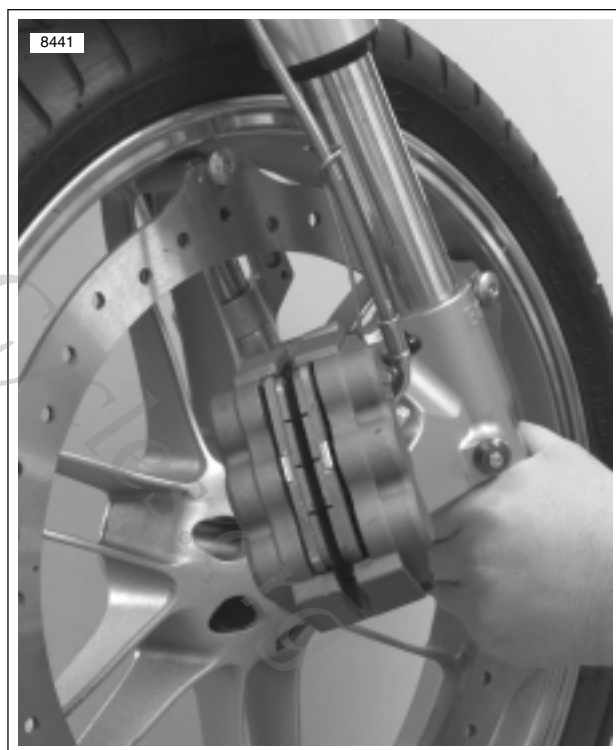

Figure 2-5. Front Wheel Removal
5. See Figure 2-5. Raise the wheel up until the rotor clears the caliper and rotate the fork leg counterclockwise allowing wheel clearance for removal.